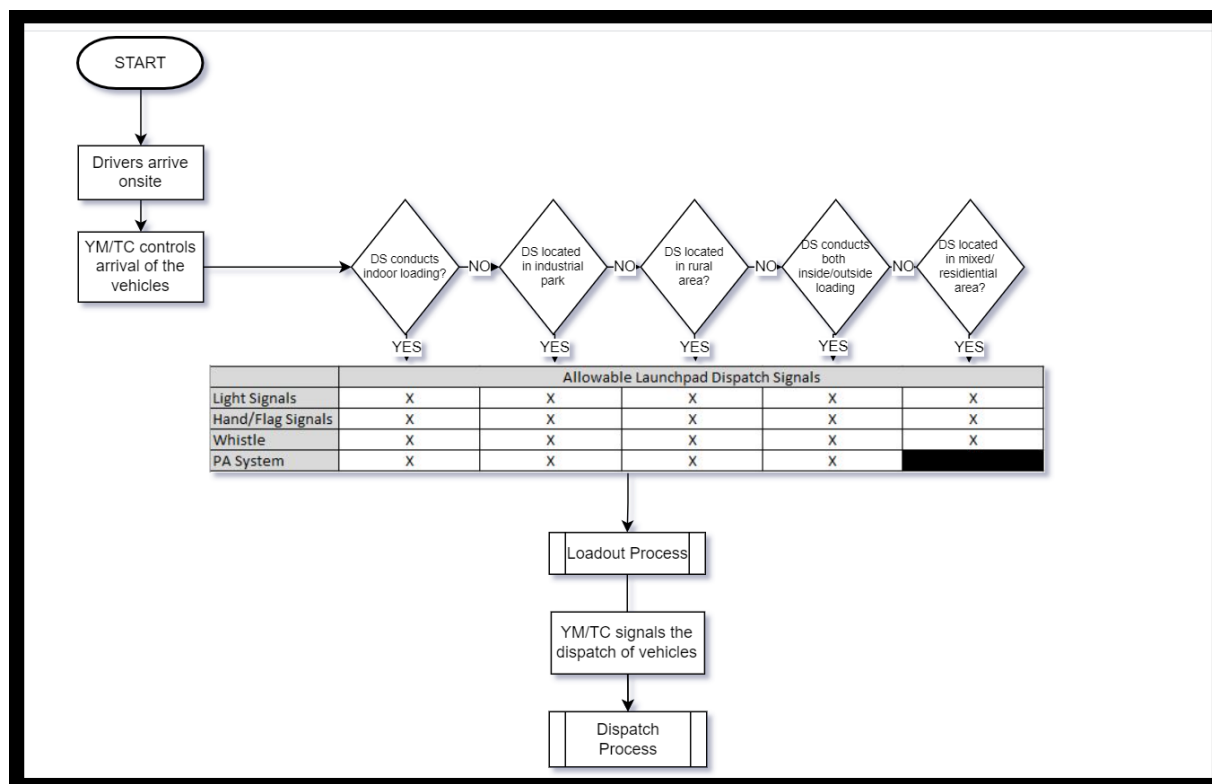

Figure 8: Dispatch Signal Decision Tree
- The Standard Staffing Model (SSM) is in NA 1x TC per Launch Pad + 1x TC per Queuing Area (QA) to manage the Flow of vehicles.
- SSM staffing model in the EU is: 1 Yard Manager (YM) / Van Manager (VM) per Launch Pad, 1 YM/VM per Waiting Area, and additional Head Count based on up to 30 vehicles per YM/VM in the Waiting Area and 1 YM per Launch Pad when managing 30 or more vans at the same time.
- Vehicles will fill by lane starting with the lane closest to the building moving out to the bypass lane. Once this is confirmed the TC/YM/VM will Direct Delivery Associate from the holding area to the loading area following the station's Micro Wave dispatch sequence with the standard TC (NA) / YM/VM (EU) hand signals.
- Following the decision tree (figure 8), the TC/YM/VM signals Delivery Associates to leave their vehicle, maximizing safety and minimizing noise disturbance to our neighbors. To eliminate confusion, each Site will choose one option and have one standard across all *Shifts*. This is critical for a positive driver Experience and prevention of safety incidents.